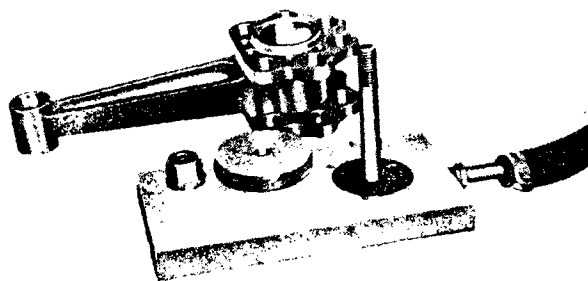

Figure 58 — Preparing to Flush the Master Rod
(2) The inside may be cleaned by sandblasting after completely protecting the piston skirt and wrist pin hole.
(3) The recommended means for removing hard carbon from the ring grooves, skirt, and the top of the piston is the blast method, substituting cracked wheat, cracked corn, or clover seed for the "Flint Shot" and increasing the air pressure to 65 pounds per square inch maximum. This method has proven most satisfactory because the grain does not damage the surfaces of the pistons. In some instances it may be necessary to clean some portions of the grooves by hand due to an excessive accumulation of hard carbon. The use of sandblast and wire brushes is not recommended for use on piston skirts, heads, or ring grooves because it will result in damage to the surfaces. Extreme caution will be exercised when steel wool, emery cloth, or scrapers are employed in cleaning pistons to prevent damage to the piston surfaces.
(4) The oil holes in the oil ring groove may be cleaned with an undersize drill.
f. Master Rod (See figures 58 and 59)
(1) Immerse the master rod in cleaning compound to remove the accumulation of oil and sludge.
(2) Figures 58 and 59 show a recommended apparatus to facilitate cleaning of the master rod oil passages that lubricate the knuckle pins.